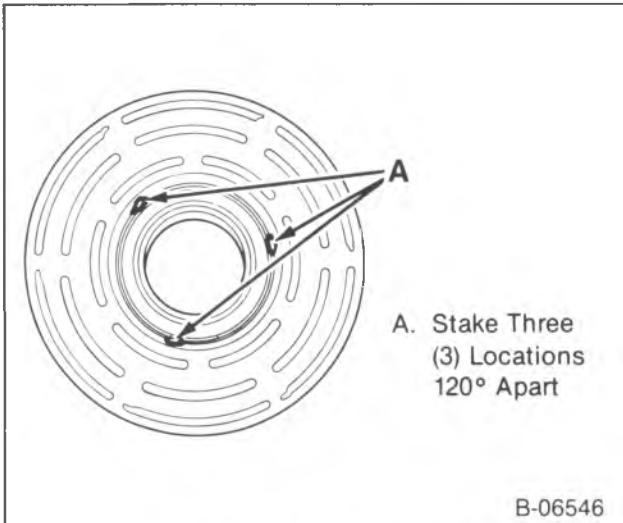
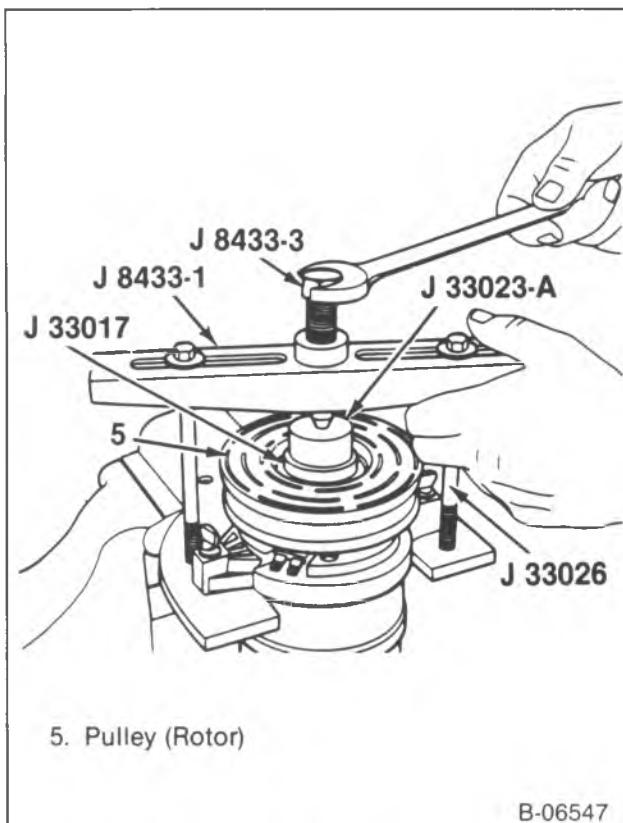

Figure 15—Staking Locations
Figure 16—Installing the Pulley Bearing Assembly
- Stake 3 places 120 degrees apart (figure 15).
3. Pulley (5) on the front head.
- Position J 33017 and J 33023-A over the inner race of the bearing (figure 16).
- Position J 8433-1 on J 33023-A and assemble the through bolts and washers through the puller bar slots and thread them into J 33026 (figure 16).
- Tighten the center screw in J 8433-1 to force the pulley and bearing assembly onto the compressor front head (11) (figure 16).